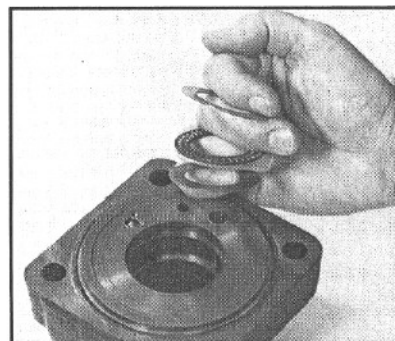

Figure 57
- 23. Remove the first thrust washer (11), the thrust bearing (12), and the second thrust washer (11) from the valve housing (9) (FIG. 57).